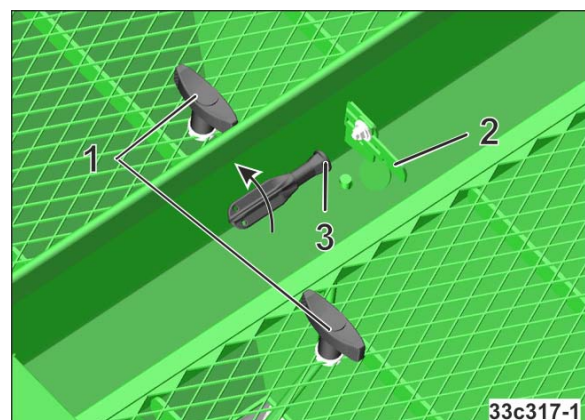

Fig. 78
- (1) Apply the tractor parking brake, switch off the tractor engine and remove the ignition key.
- (2) Release the screen locks (Fig. 78/2) using the handle (Fig. 78/3)
- (3) The screens can be removed with the handles (Fig. 78/1)
- (4) Clean the hopper
- (5) Reinstall the screen in the reverse sequence.